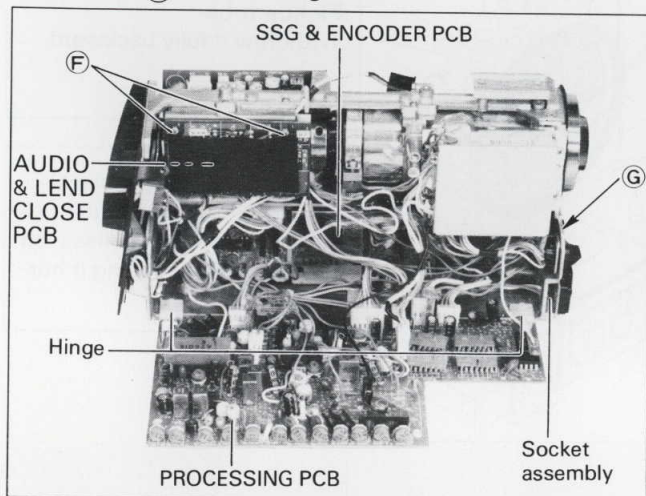

Fig. 9-10 Removal of SSG & ENCODER PCB (2)
- (3) After removing **PROCESSING PCB**, **AUDIO & LENS CLOSE PCB** can be removed by removing two screws (F), shown in Fig. 9-10.
- (5) Remove **PROCESSING PCB** by removing the two screws fixing the hinges shown in **Fig. 9-10** from the lower side of the chassis.
- (6) After removing the front cover as instructed in **9-2**, remove screw **(G)** fixing the socket assembly shown in **Fig. 9-10**.